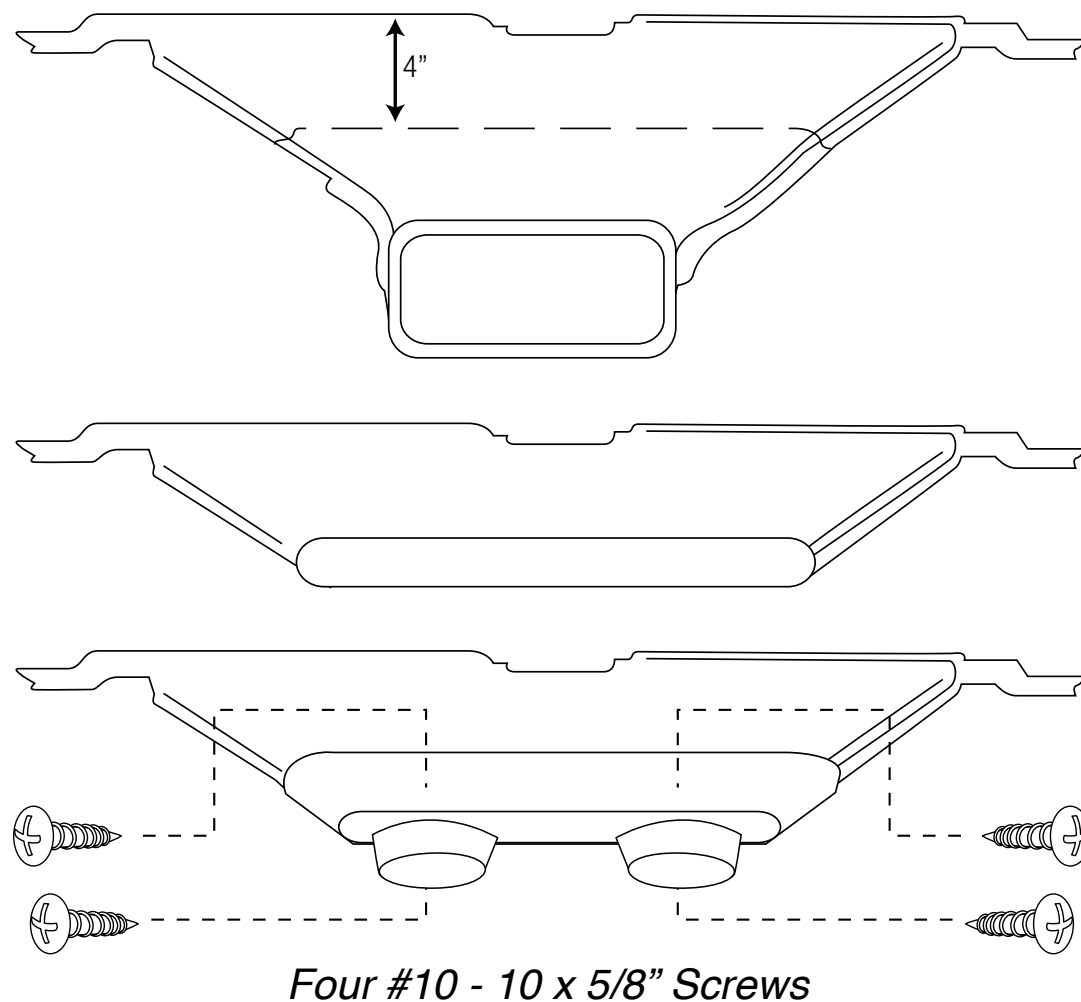

FIGURE 28
**Bag Kit E.** In order to use your OEM defrost diffuser, you need to modify it slightly and attach our included defrost adapter. Remove the OEM diffuser and lay on a flat surface. From the top of the duct measure and mark 4" down from the top. Cut off the lower portion and discard. Attach our adapter and secure with the screws we've included (see figure 28).